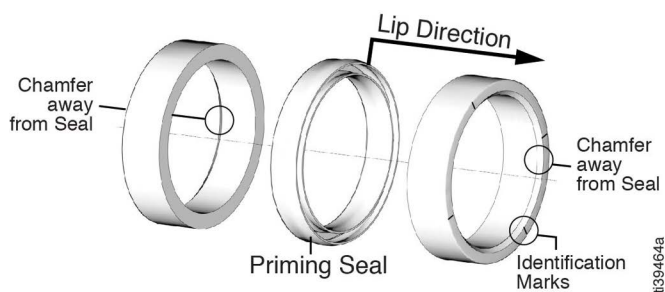

FIG. 28
- The chamfer on the seal back-up rings must be pointing away from the seal (FIG. 28).